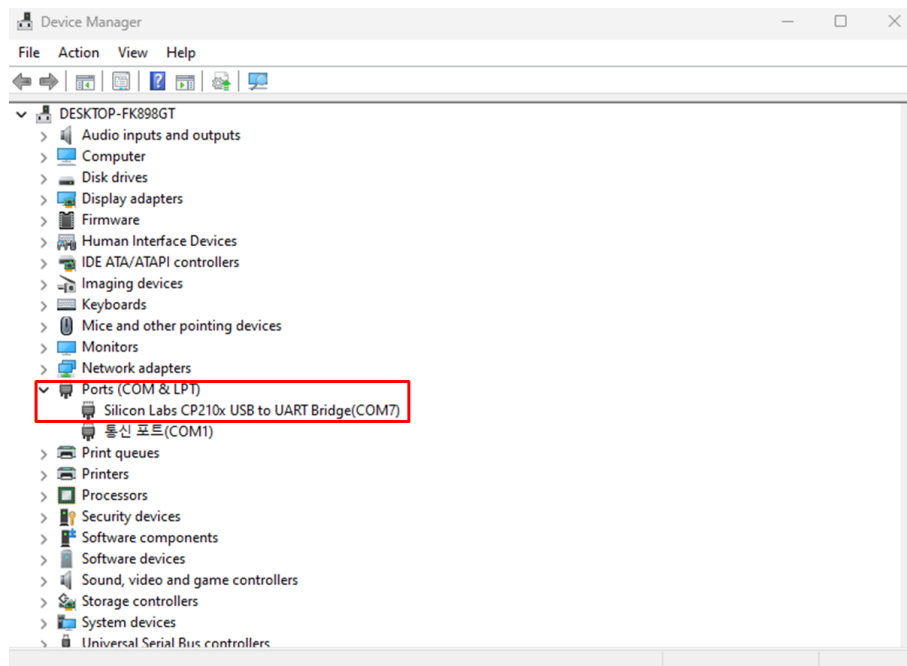
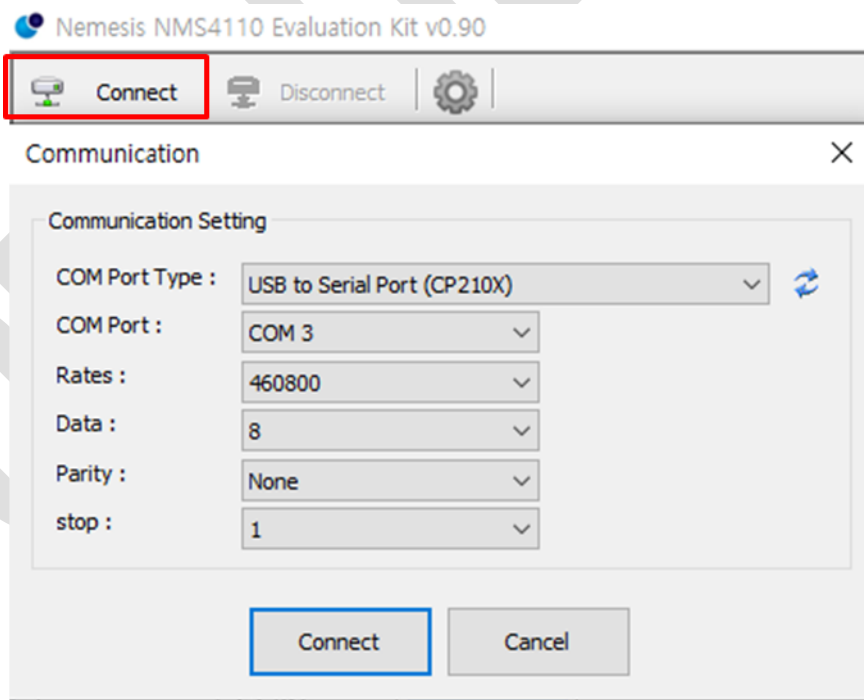

Figure 2 EVK Device on Windows Device Manager
Figure 3 Communication Window
- ① **USB Connection:** Connect the ESP32-DevkitM-1 mounted on the EV board to the PC via a Micro-USB cable. Once connected, the device should appear as shown in Figure 2. (Note: The Silicon Labs CP210x driver is required for PC communication with ESP32-DevkitM-1.)
- ② **LED Power Indicator:** LED1 on the EVK board should light up, indicating power status (independent of PC communication).
- ③ **Launching GUI(No separate installation required):** Run the NMS4110-EVK.exe program. Click the "connect" button in the communication window (shown in Figure 3). The COM port and default baud rate (460800) will be automatically selected, though you may need to manually choose the correct COM port if multiple EVKs are used.